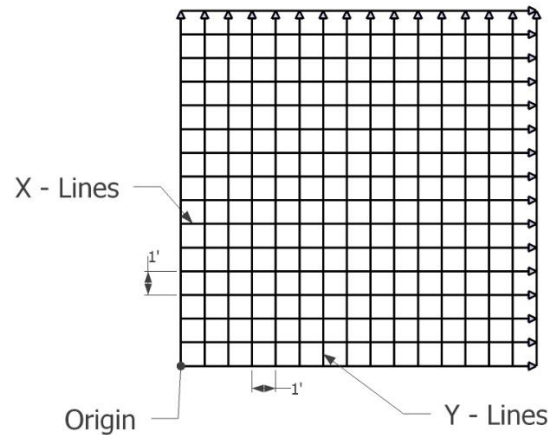

Figure 7-7: X-Lines and Y-Lines relative to the Origin.
**Step 1 – Define the axis-** Lines parallel to the Y-Axis are called Y-Lines. Similarly, lines parallel to the X-Axis are called X-Lines (Figure 7-7). Pick the origin of the grid such that it is the furthest corner away from any obstacles. This way, all the lines start properly, but they can be ended early if there is an obstruction.